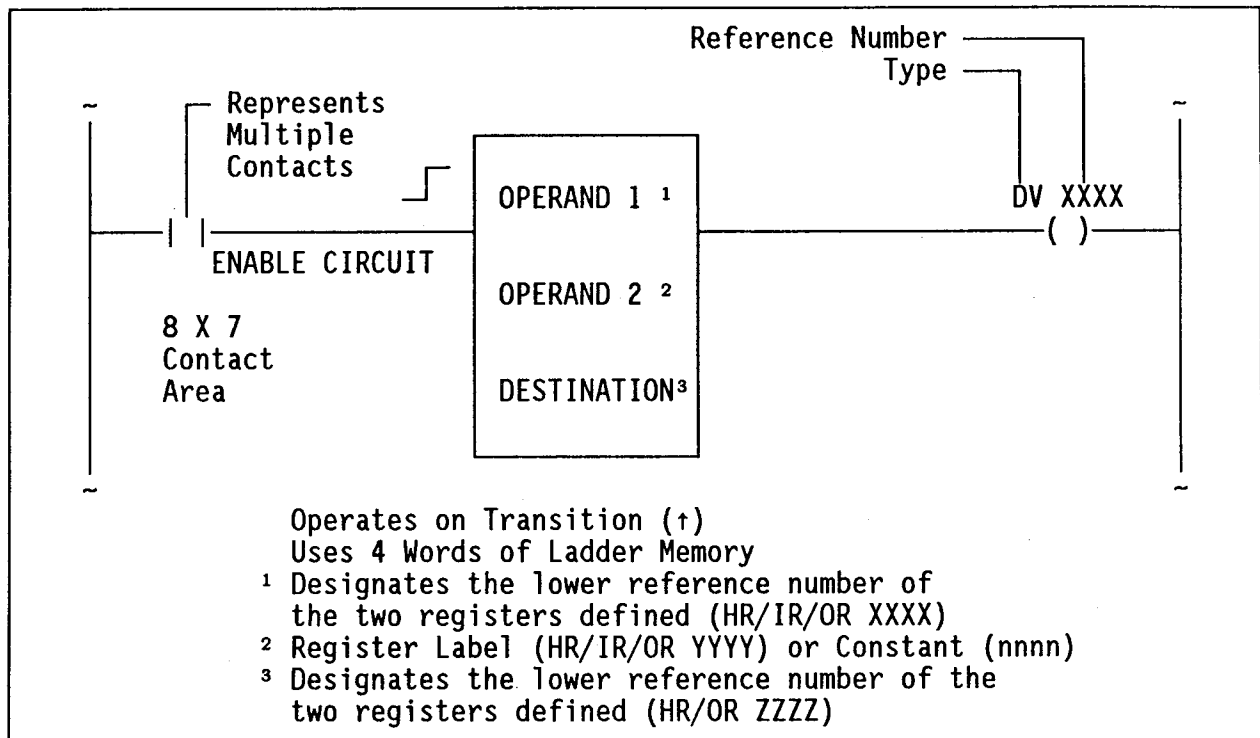

Figure 1. Division (DV)
The Divide (DV) function divides one integer number (the dividend) by another (the divisor), resulting in an integer result (quotient) and remainder. DV function symbology is shown in Figure 1. Operand 1 is divided by Operand 2 when the enable circuit changes from non-conducting to conducting.